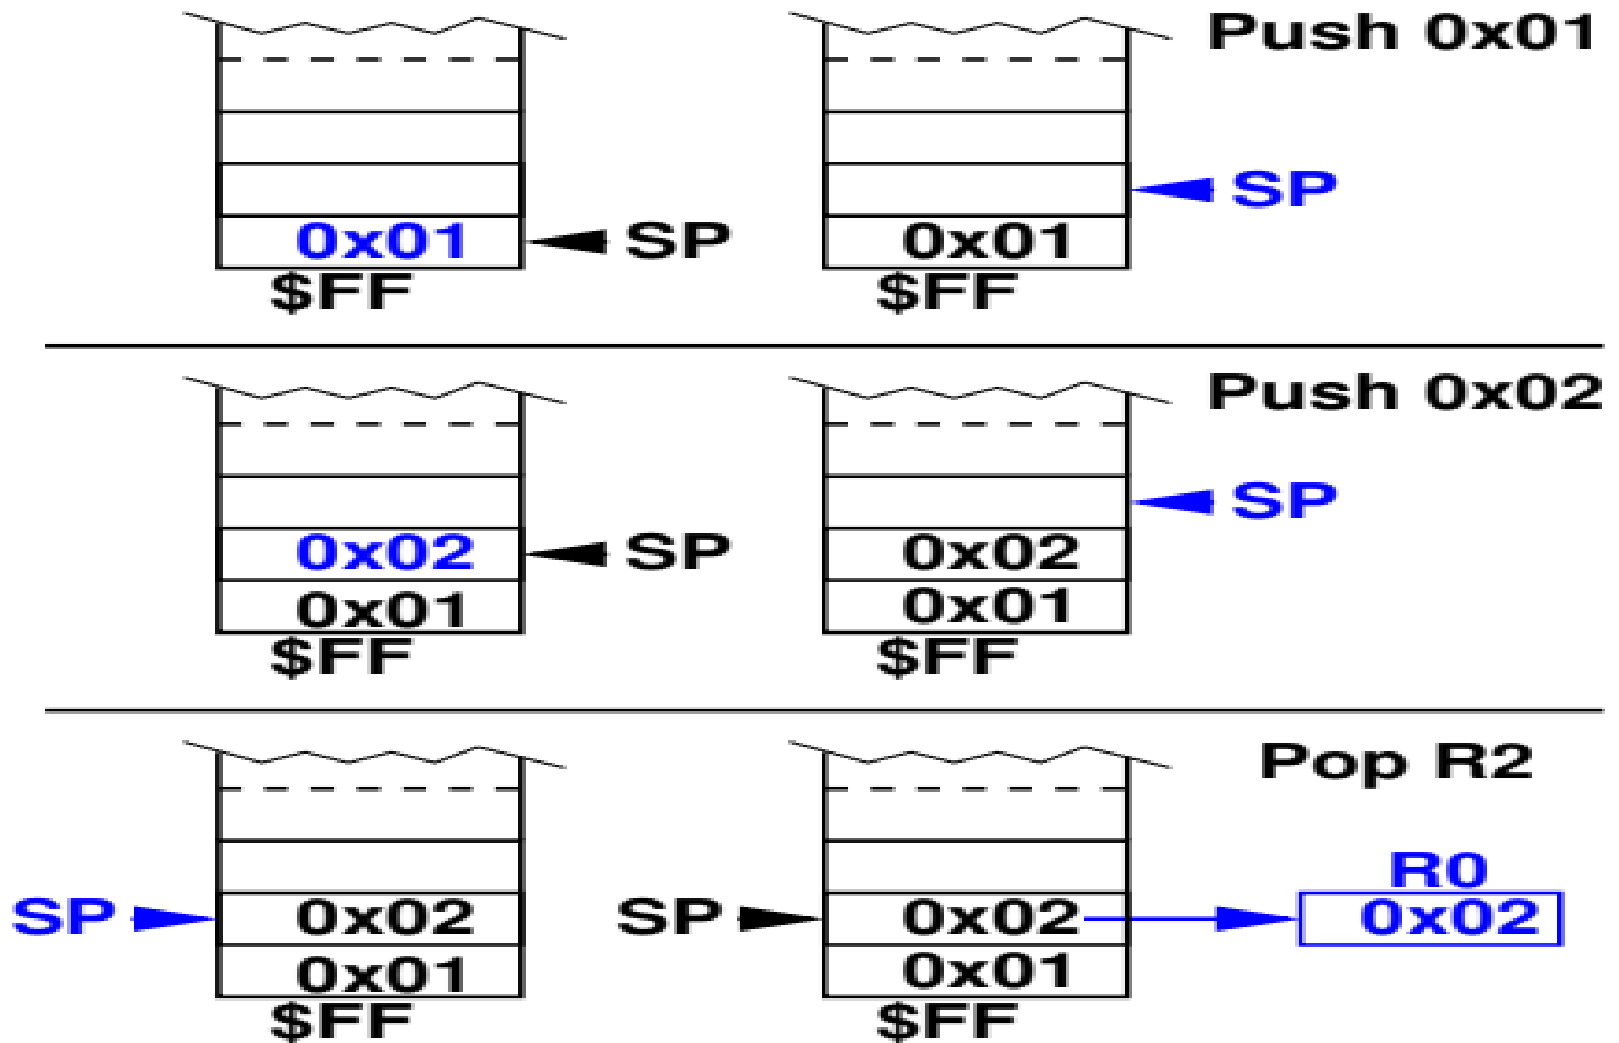

Figure 2.2: Stack operation (write first).
- Unfortunately, there are two ways to interpret the memory location to which the SP points: It can either be seen as the first free address, so a PUSH should store data there and then decrement the stack pointer as depicted in Figure 2.2 (the Atmel AVR controllers use the SP that way), or it can be seen as the last used address, so a PUSH first decrements the SP and then stores the data at the new address (this interpretation is adopted for example in Motorola's HCS12). Since the SP must be initialized by the programmer, you must look up how your controller handles the stack and either initialize the SP to the last address in memory (if a push stores first and decrements afterwards) or to the last address + 1 (if the push decrements first).